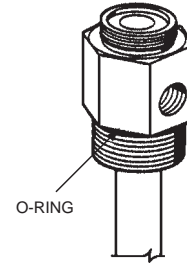

FIGURE 8-16
15. Examine threads on each adaptor and tank collar for nicks, burrs, or cross-threading. Clean and coat o-ring with a good grade of extreme temperature grease. Make certain bursting disc is in place and silver side is away from tank. See Figure 8-16.